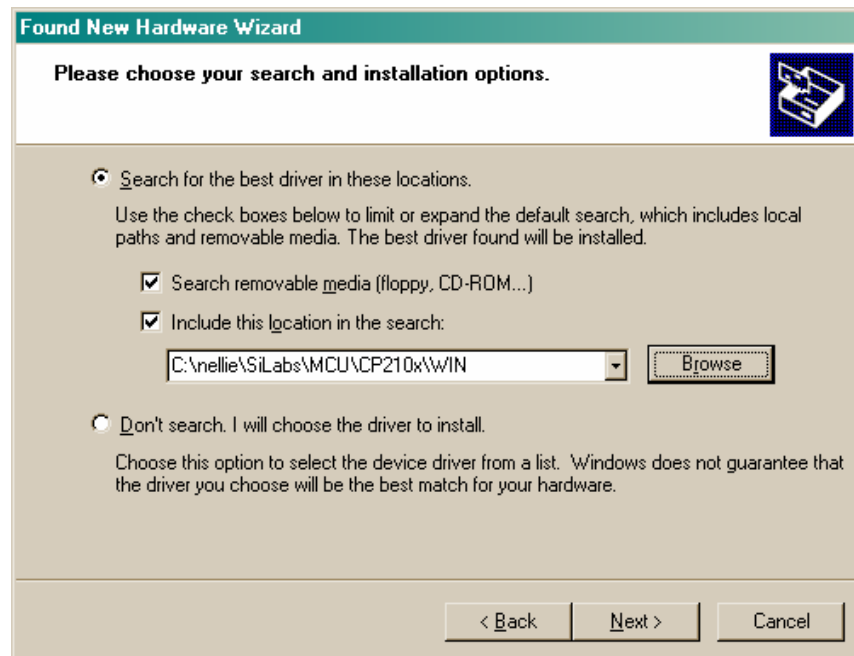

Figure 16
6. After the **OK** pushbutton is selected in the **Browse For Folder** window, the input focus will once again be upon the **Found New Hardware Wizard** window requesting the user to choose the search and installation options. Looking at the field underneath **Include this location in the search:** should be the directory path: **C:\nellie\SiLabs\MCU\CP210x\WIN**. Refer to Figure 16. To continue, press the **Next** pushbutton found at the bottom of this window.